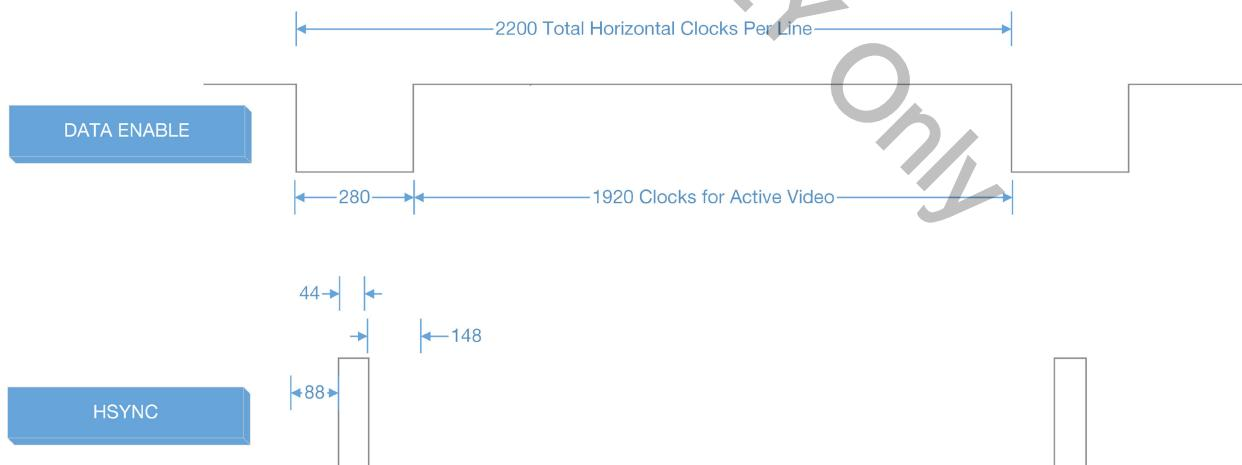

Figure 8-6. Example of HDMI Register Programming: Setting the Input Video Format (1920x1080i) (3 of 3).
2. Set the **VUNIT_hblank_left**, **VUNIT_hblank_pulse** and **VUNIT_hblank_right** registers. Refer to Figure 8-6.